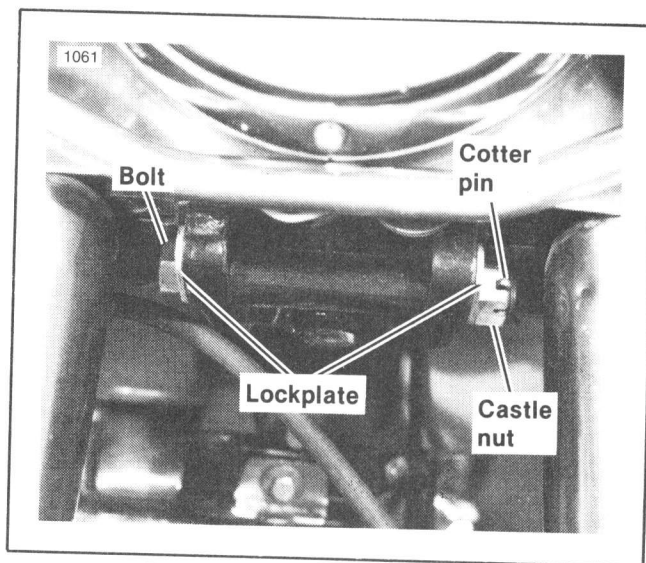

Figure 6-1. Adjusting Fork Trail
2. See Figure 6-1. Underneath fork head lower bracket is a large bolt secured with a castle nut and cotter pin. Remove and discard cotter pin. Remove nut and disengage lockplates (located under bolt head and nut) from slots in fork bracket.